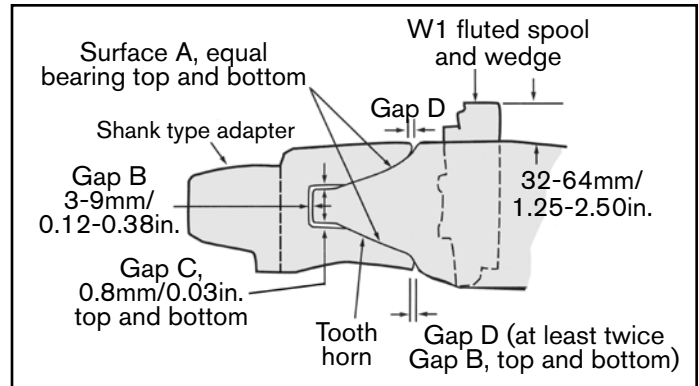

Figure 1
2. Tooth horns should be rebuilt by welding and grinding until the dimensions shown in Figure 1 are achieved. Be sure to use a new adapter and locks for gauging the fit.